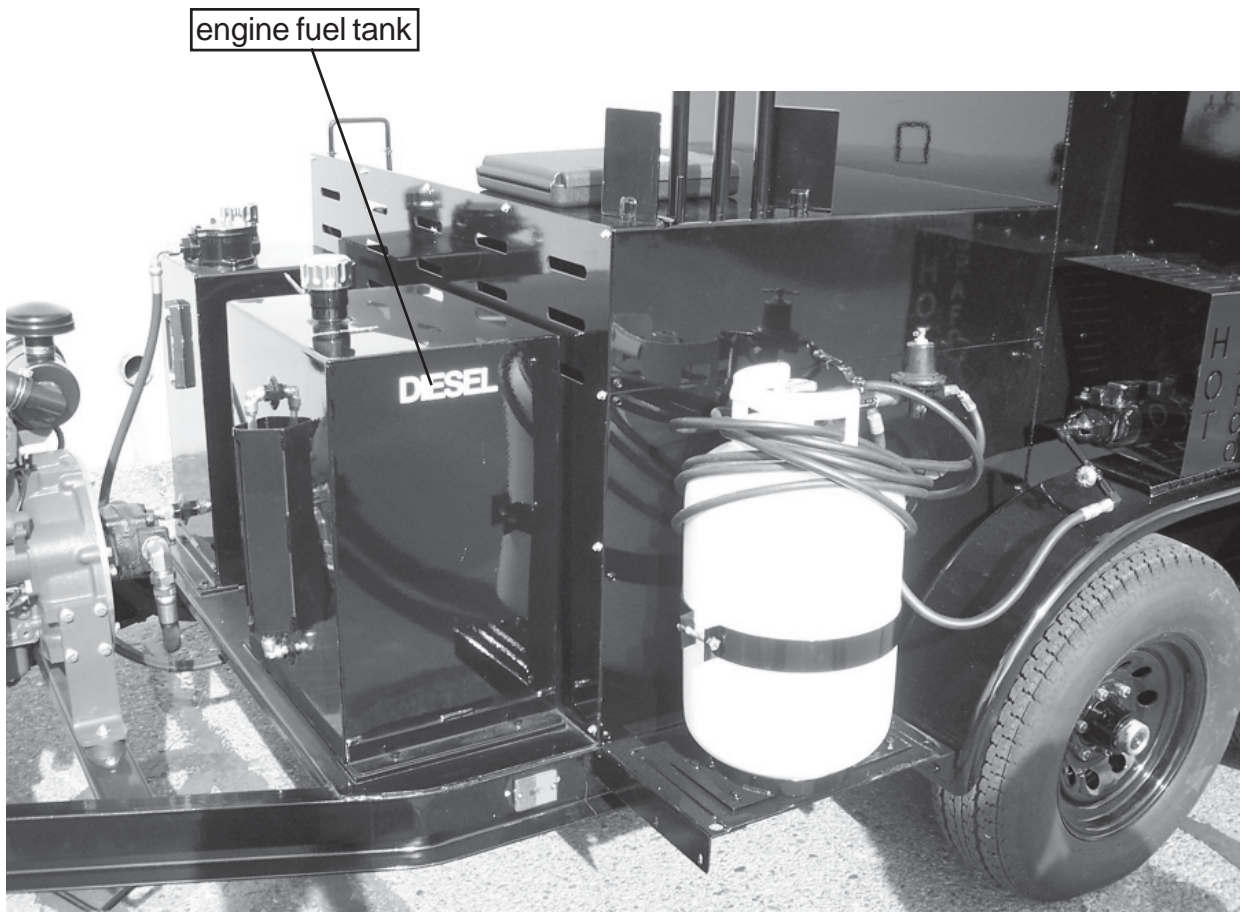

Fig. 7
6. Fill engine tank with diesel fuel - **DO NOT FILL ENGINE FUEL TANK WHEN BURNER IS LIT (see Fig. 7).**